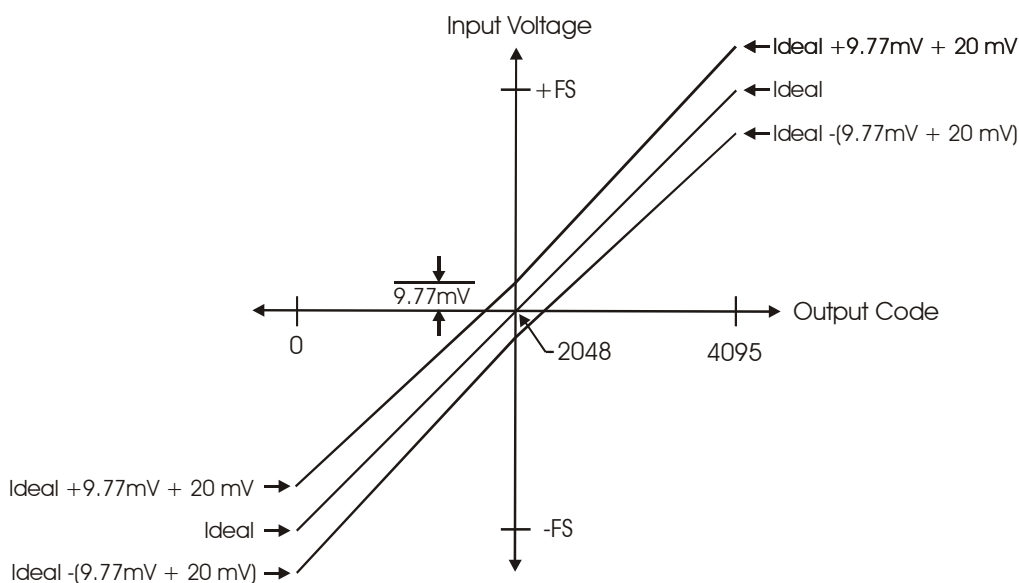

Figure 3-13. Error band plot
Combining these two error sources in Figure 3-13, we have a plot of the error band of the USB-1208FS for the  $\pm 10$  V range. This is a graphical version of the typical accuracy specification of the product.
**The accuracy plots in Figure 3-13 are drawn for clarity and are not drawn to scale**